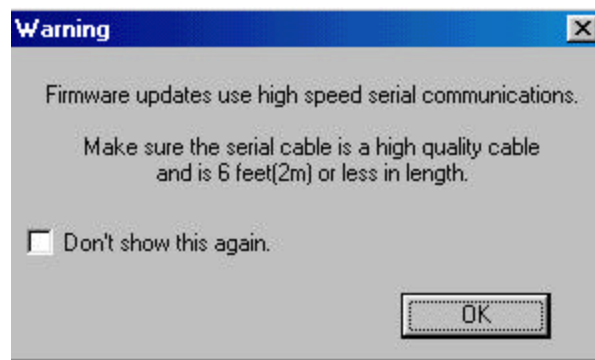

Figure 2.17 – Cable Warning
2. A Warning dialog box (see Figure 2.17) appears regarding the quality and length of the cable. Press **OK** to proceed.